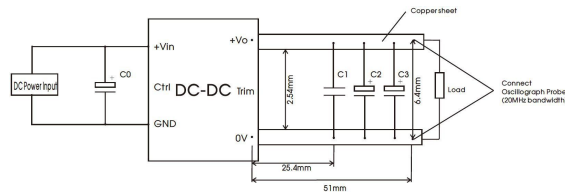

Fig.1
Note: ①The “Tip and barrel method” is used for ripple and noise test, for details please refer to Fig.1.
All the DC-DC converters of this series are tested before delivery using the recommended circuit shown in Fig. 1.